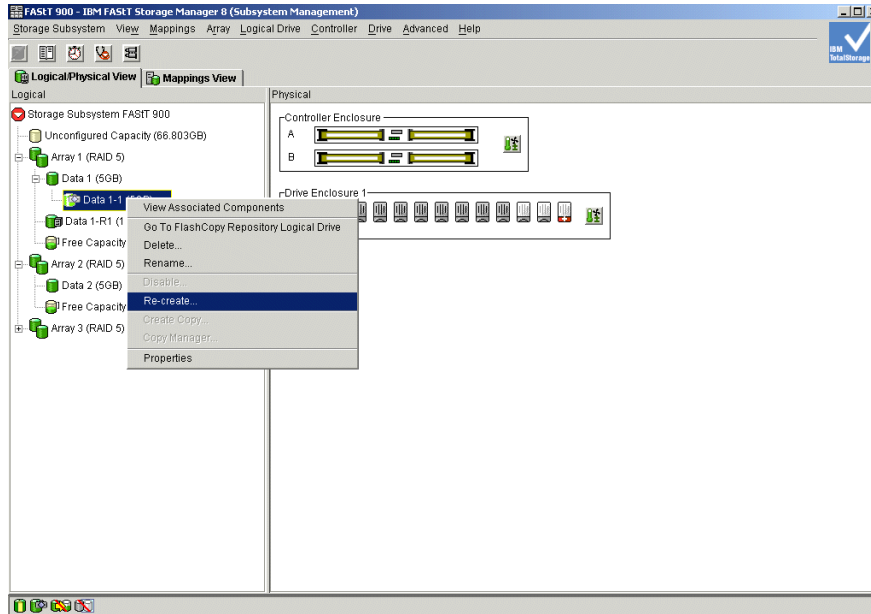

Figure 7-39 FlashCopy Logical Drive - Delete
1. Select the FlashCopy Logical Drive. Right-click and select **Re-Create**, as shown in Figure 7-39.